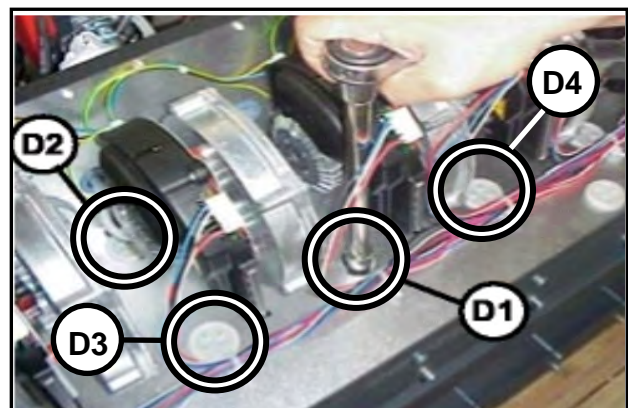

Figure 6: Remove Plastic Bolt Covers (C)
7. Using a 13 mm socket wrench, remove the bolts **D1**, **D2**, **D3**, and **D4** that secure the fan chamber cover onto the burner assembly (**Figure 6**).